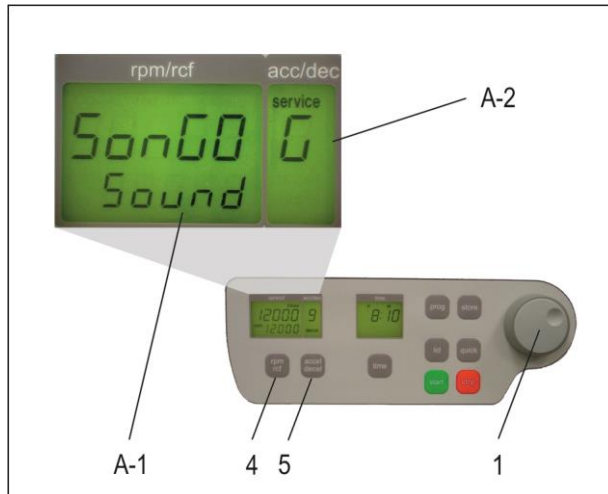

Figure9
Proceed as illustrated, under point 1.8.1, to enter this program mode, press the key, "accel/decel" (5). In the display, "accel/decel" (A-2) flashes the word, "service". Select the letter, "G" with the adjustable knob (1). As a result, appearing in the display, "rpm/rcf" (A-1), the word "SonGo/Sound". After pressing the key „rpm/rcf“ (4), select a song with the adjusting knob (1), (see Figure9).